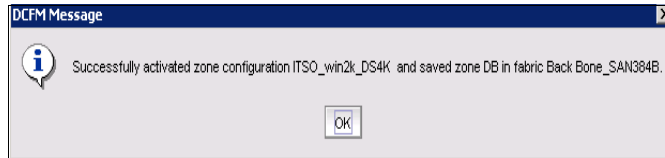

Figure 12-22 DCFM Message
3. DCFM saves the zone database to the fabric, and enables the zone configuration that replaces the old one. A message box displays to inform you that these changes were successfully made (see Figure 12-22). Click **OK**.